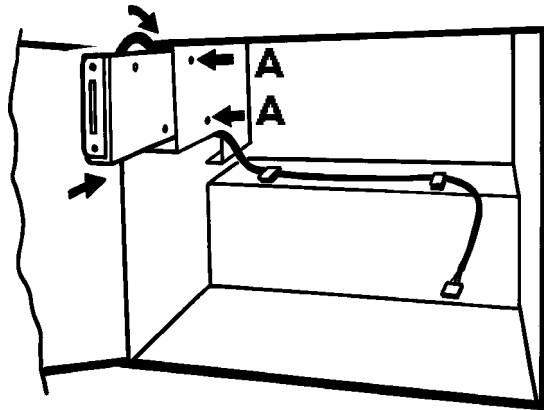

Figure 4.7.3d Memory card driver fitting
7. As indicated in figure 4.7.3d, insert the memory card driver module (first inserting the cable harness into the slot and down across the top of the PSU).
8. Secure the memory card driver using the two screws previously removed ('A' in figure 4.7.3d).
9. Clip the memory card harness to the top of the power supply unit as shown in figure 4.7.3d.